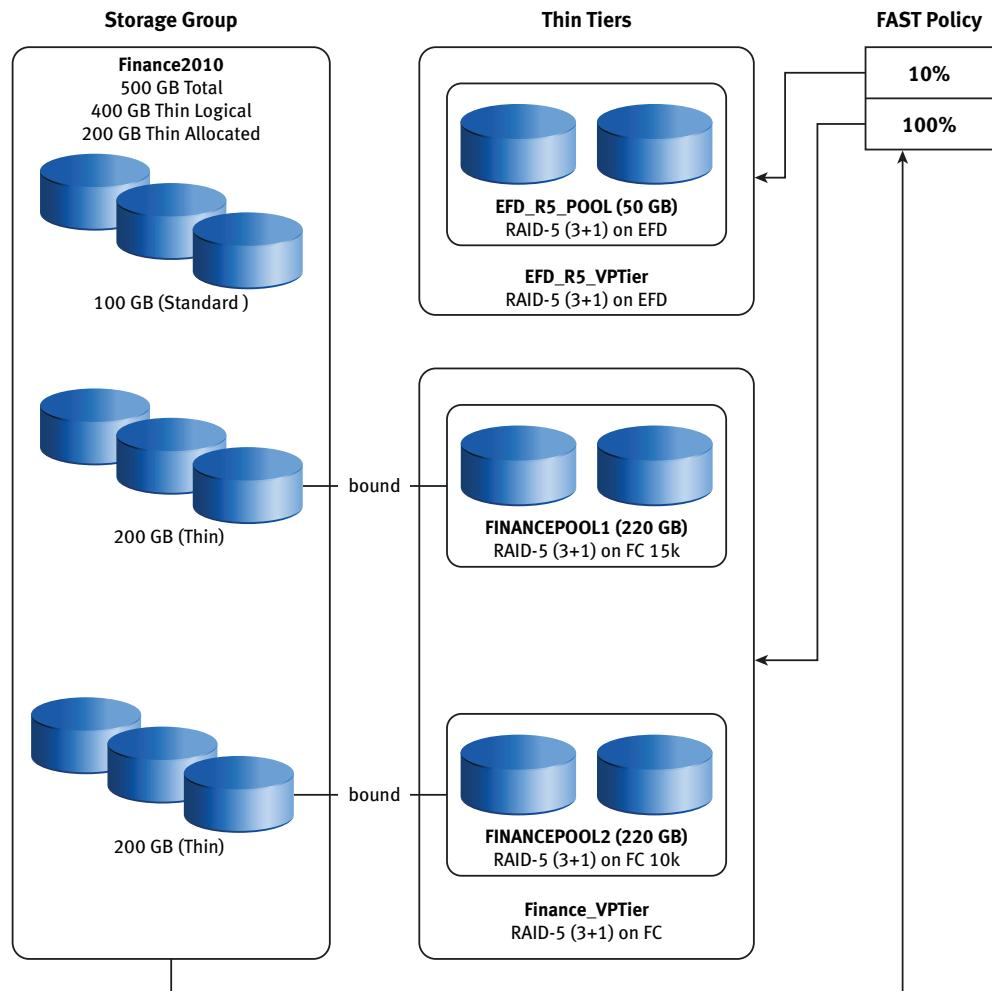

Figure 26 FAST VP complicated configuration example
Figure 26 shows a more complicated FAST configuration in an environment mixing disk group (DP) tiers and virtual pool (VP) tiers. The storage group Finance2010 is associated with the FAST Policy Finance_VP_Policy.